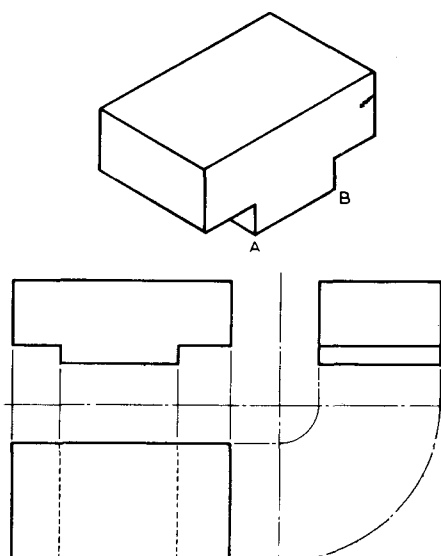

Fig. 3.36
**Hidden details** are shown by dotted lines, which help the reader to understand the drawing. In drawing the object shown in Fig. 3.36 we cannot see the face AB when looking at the top of the block. This face is shown by the dotted lines in plan view.